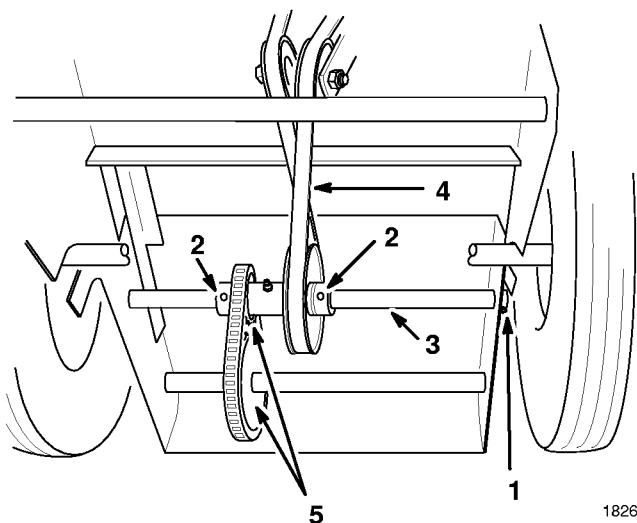

Figure 29
11. Refer to Figure 29. Tip the unit back onto the handles. Remove the cotter pin from the end of the shaft, loosen the set screw in each of the collars, and tap the shaft to the left far enough so the new belt can be installed.
IMPORTANT: The belt must be installed as shown in Figure 29 or the traction drive will run backward.